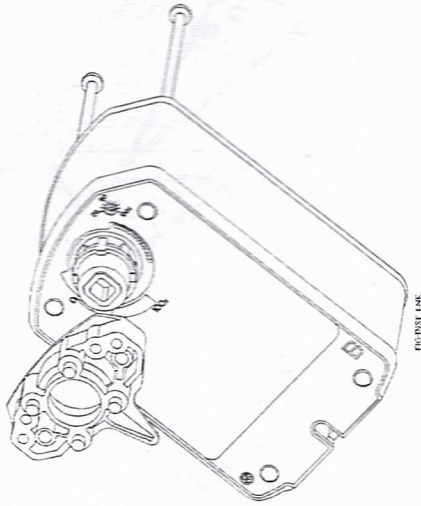

Figure 7: Installing the Linkage
5. Install linkage base on Side B using the two #10-14 x 2.75 in. long screws (Figure 7). The recommended torque is 20 to 24 lb·in. (2.3 to 2.7 N·m).